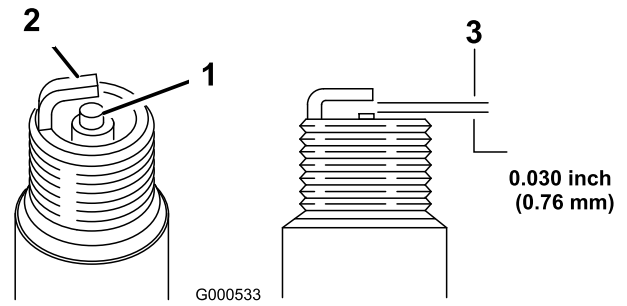

Figure 39
1. Look at the center of the spark plug (Figure 39). If you see light brown or gray on the insulator, the engine is operating properly. A black coating on the insulator usually means the air cleaner is dirty.
2. Check the gap between the center and side electrodes (Figure 39). Bend the side electrode (Figure 39) if the gap is not correct.